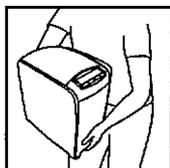

Fig. 2
- Carry the unit by the handle grips located at the bottom of the unit (Fig. 2).